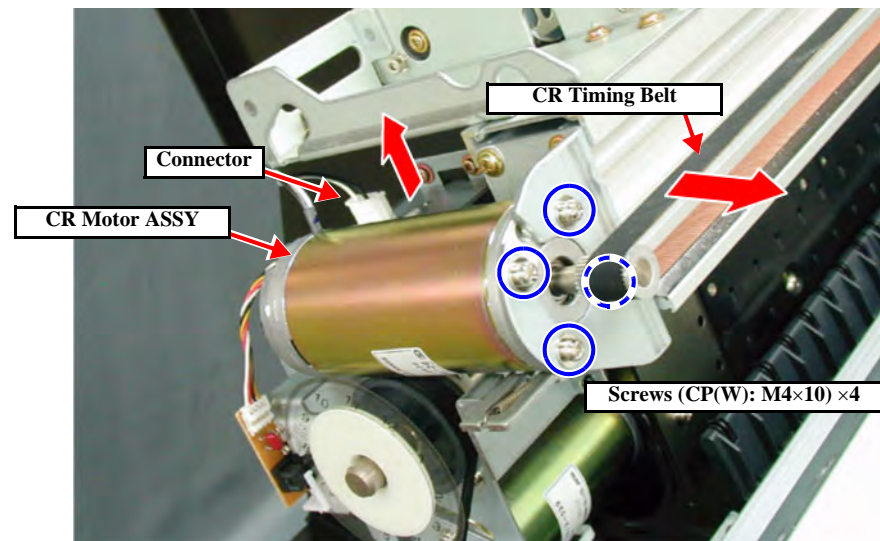

Figure 4-43. Removing the CR Motor ASSY
8. Loosen the CR Tension Mounting Shaft on the R Side Frame side, then release the tension on the CR Timing Belt. (See Figure 4-43)